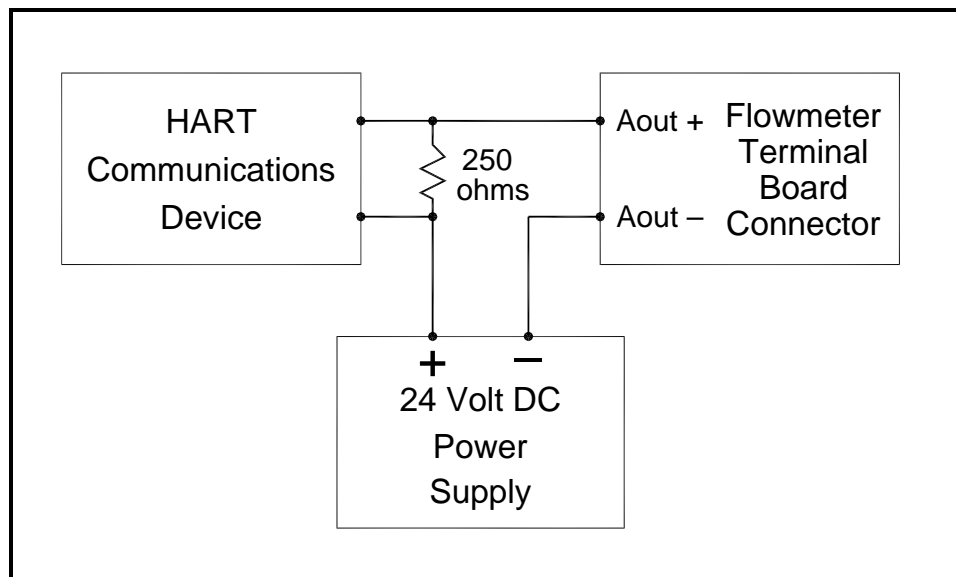

Figure 221: HART Wiring (Ext. Supply/Passive Mode)
1. Interconnect the HART interface and the HART device as shown in Figure 221 below.